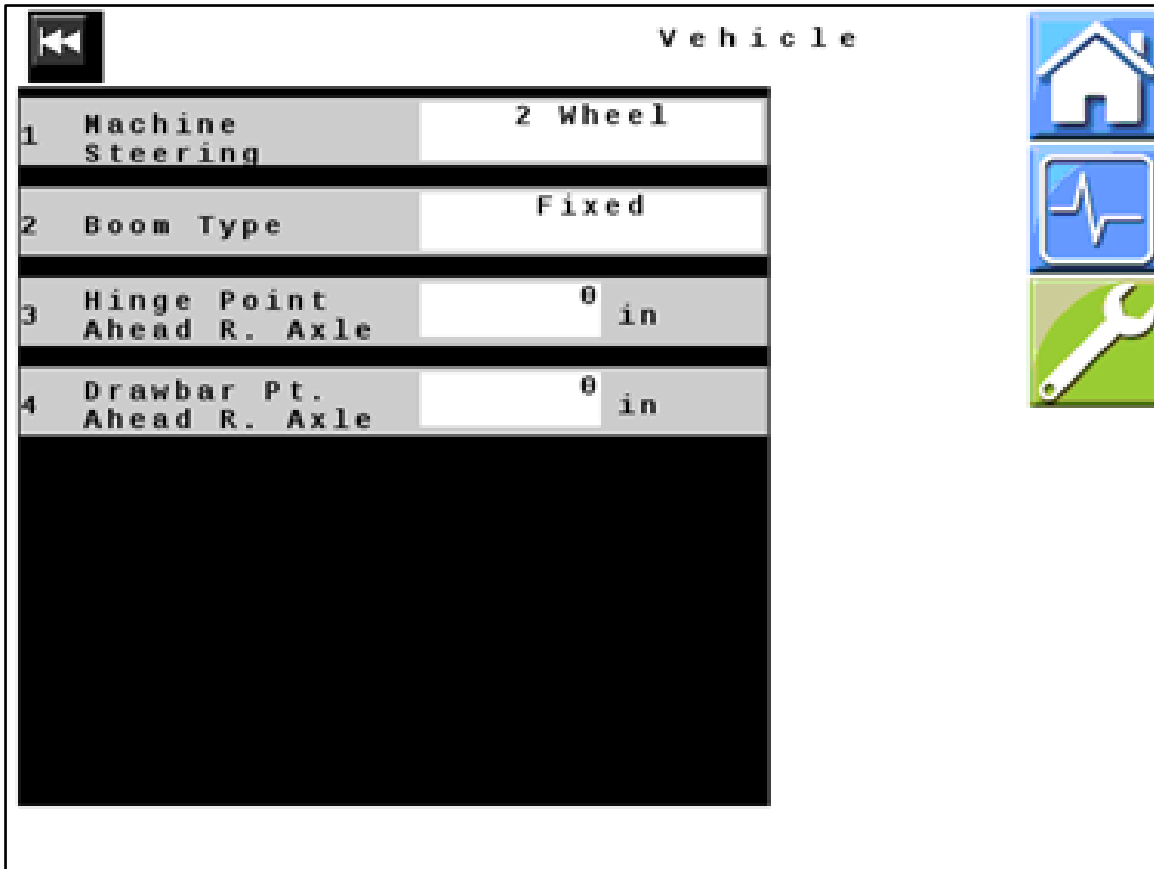

Figure 22 — Vehicle
40. *Figure 22:* Verify that all values displayed on your unit match those shown here. Change values if necessary.